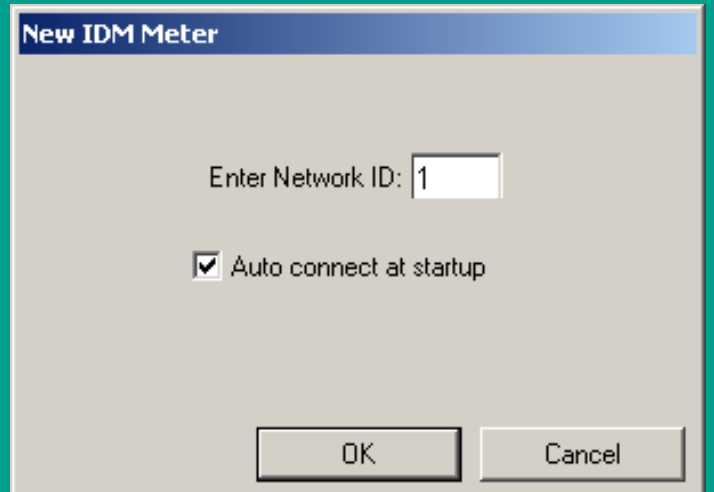

Figure 22: New IDM meter screen
4. The “new IDM meter” screen (shown in figure 22) opens. Enter the network ID number for the meter, and click [OK].